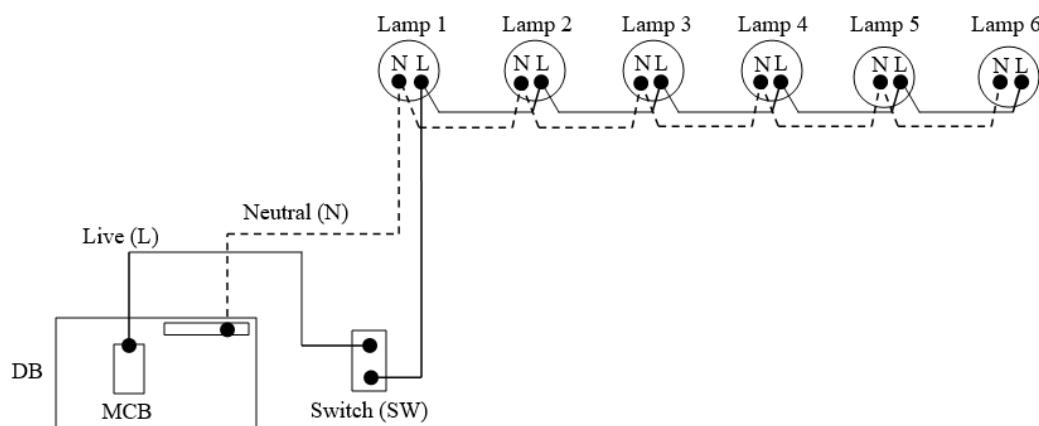

Figure A1(a) / Rajah A1(a)
- CLO2 (a) A miniature circuit breaker (MCB) is connected to each unit (nos) of 100W fluorescent tube lamp as shown in Figure A1(a). If 230V is supplied to a distribution board (DB), estimate the appropriate rate of MCB for the lighting circuit.